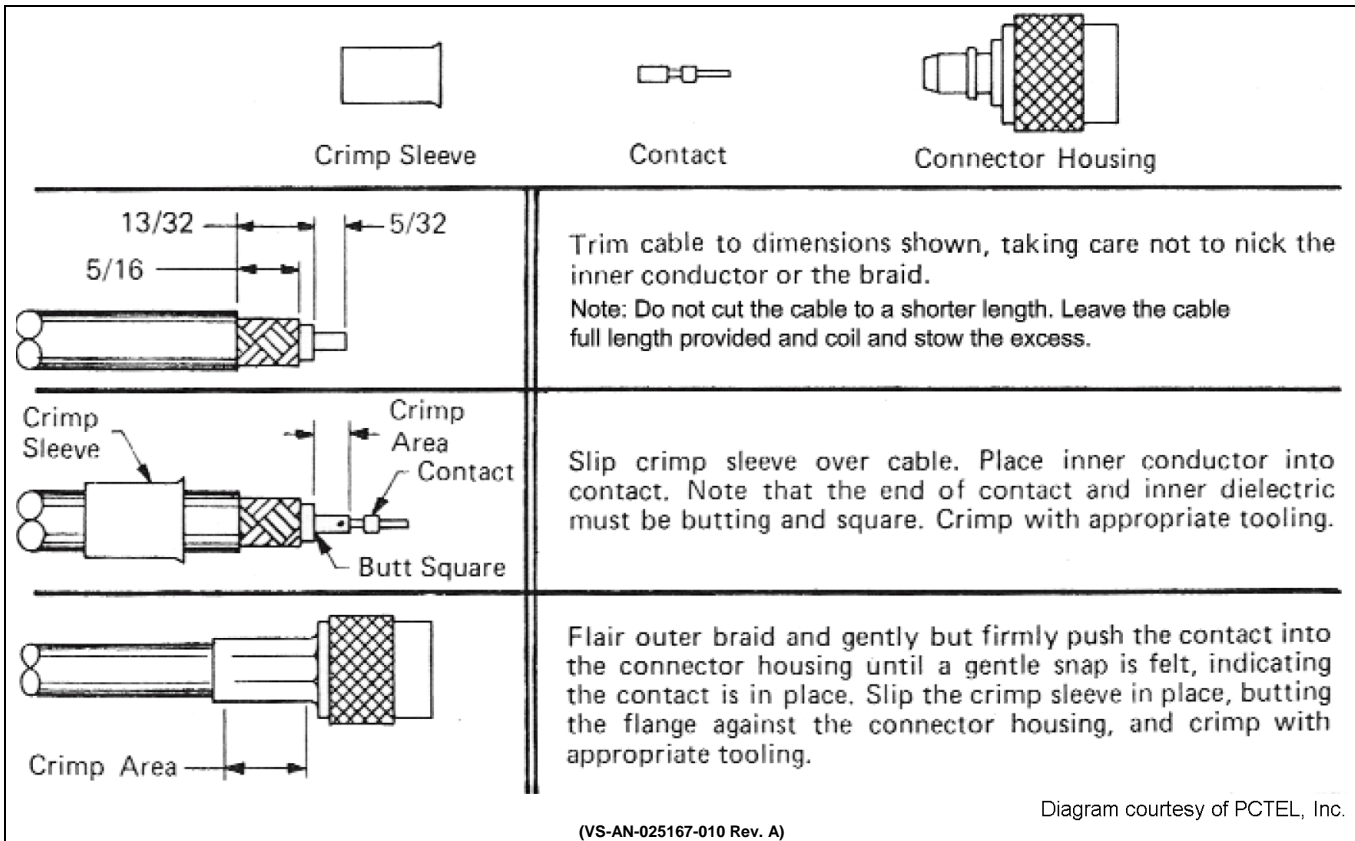

Figure 7-6: Crimping Instructions for TNC RF Connector (Actual Size; Dimensions in Inches)
3. Using an appropriate crimp tool, crimp the supplied TNC RF connector to the end of each antenna cable. See Figure 7-6 for crimping instructions.